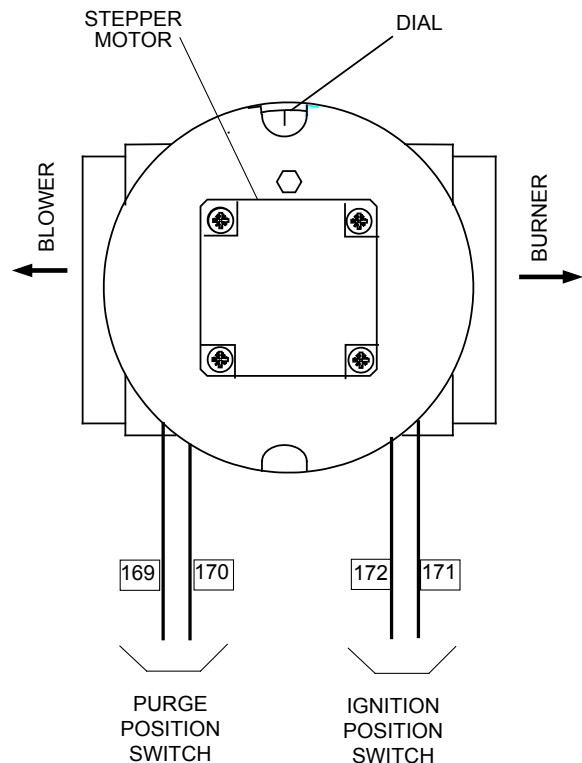

Figure 5.8
3. Remove one of the two wires from the purge switch (Fig. 5.8) and start the unit.
3. Remove one of the two wires from the ignition switch (Fig. 5.8) and start the unit.